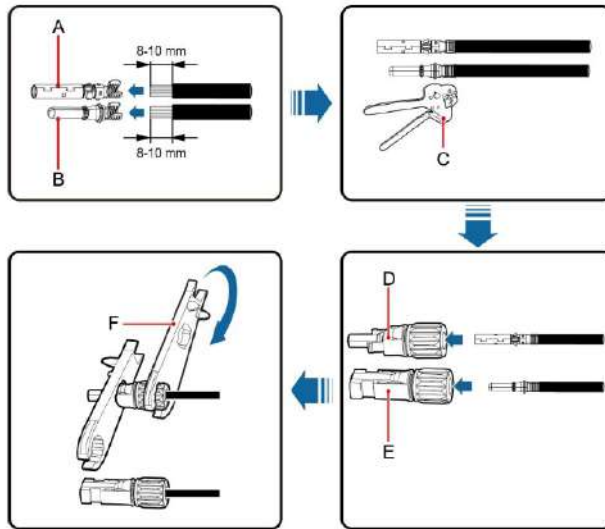

Figure 4.15 Connection between DC connector and solar modules
- (1) Lighting, short-circuit and other protection measures which meet the local electrical safety laws and regulations are needed before the AC connection;
- (2) Connect the output cables of solar modules to the DC connector of inverter as Figure 4.15 shows. Remove the isolation layer of the DC cable for about 8-10mm. Insert the conductor part into the appropriate position of the connector, crimp the MC4 DC terminal and tighten the nut with a torque of 2.5-3Nm. Ensure the poles of solar modules are correctly and well connected with the connectors.